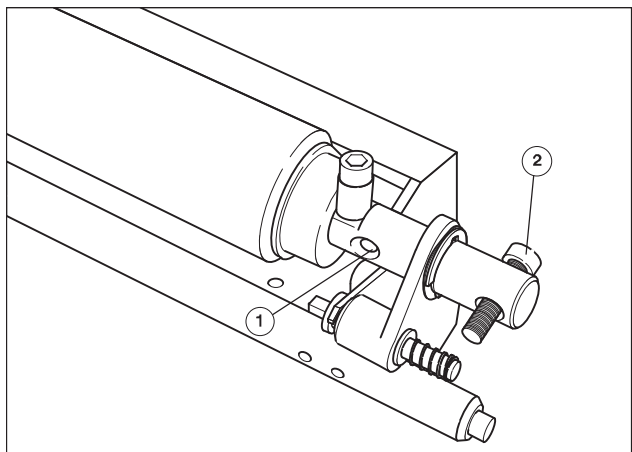

Fig. 61 Adjusting the rollers
1. Turn the adjusting screw on O.S. and D.S. (Fig. 61/1) clockwise: narrower contact area.
2. Turn the adjusting screw on D.S. and O.S. (Fig. 61/2) clockwise: narrower contact area.